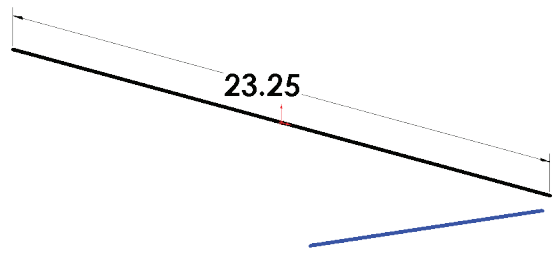

Fig. 5
Step 8. Click **Zoom to Fit**  (F) on the View toolbar.
Step 9. Click **Line**  (L) on the Sketch toolbar.
Step 11. Draw a line away from first line at an angle or not on Z axis (no Yellow Z), **Fig. 5**. Cursor